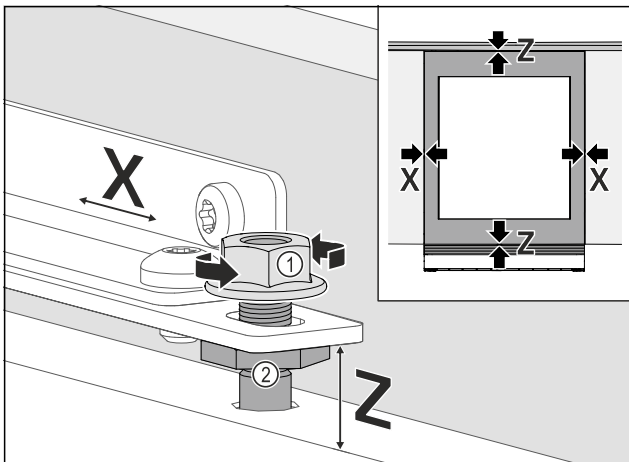

Fig. 76
- ▶ Align the unit door sideways: Loosen lock nut *Fig. 76 (1)*, move unit door in **X** direction.
- ▶ Tighten the lock nuts *Fig. 76 (1)*.
- ▶ Align the unit door in height **Z** and in the lateral inclination: Adjust the adjustment bolt *Fig. 76 (2)*.